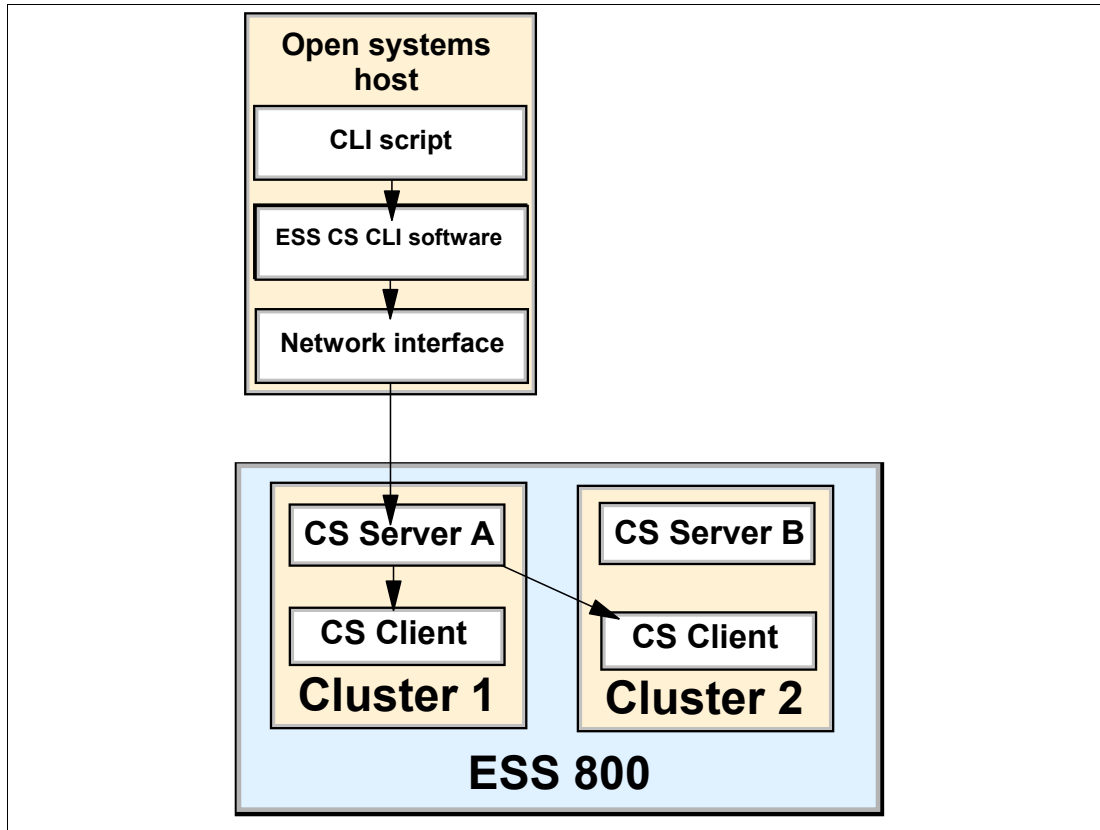

Figure 10-1 Command flow for ESS 800 Copy Services commands
Figure 10-1 on page 199 shows the flow of commands from host to server. When the Copy Services (CS) server receives a command, it determines whether the volumes involved are owned by cluster 1 or cluster 2. This is based on LSS membership (even numbered LSSs belong to cluster 1, odd numbered LSSs belong to cluster 2). The CS server issues the command to the client software on the correct cluster and then reports success or failure back to the CLI software on the open systems host.